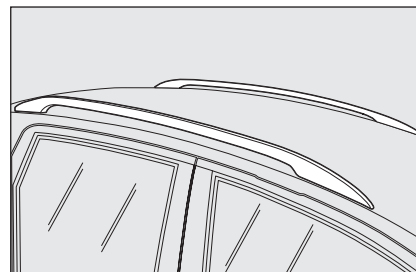

fig. 121
**IMPORTANT** Use of Lineaccessori Fiat roof bars is recommended **fig. 121**. Follow the instructions contained in the assembly kit to the letter. Assembly must be performed by qualified personnel.